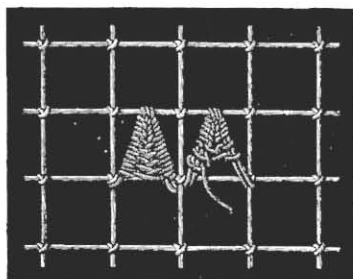

Fig. 28. Scallops in buttonhole stitch.
**Scallops in buttonhole stitch** (fig. 28). — Another way quite as pretty and easy as the preceding is, making two buttonhole stitches before passing to the opposite side.